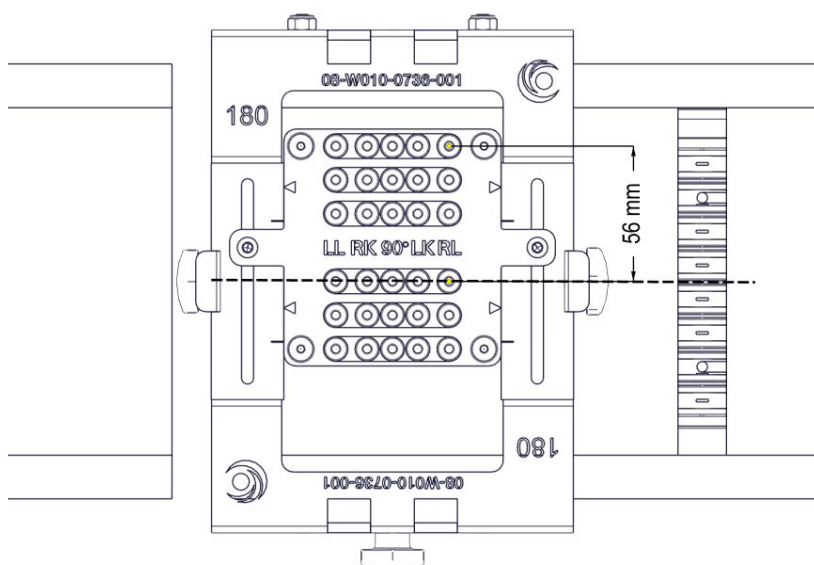

Fig. 38: Align the drill bushing block
- Push the drill bushing block upwards so that the upper row of drill bushings on the lower bushings is centered on the center line of the conductor rail. This results in a dimension of 56 mm (see Fig. 38)